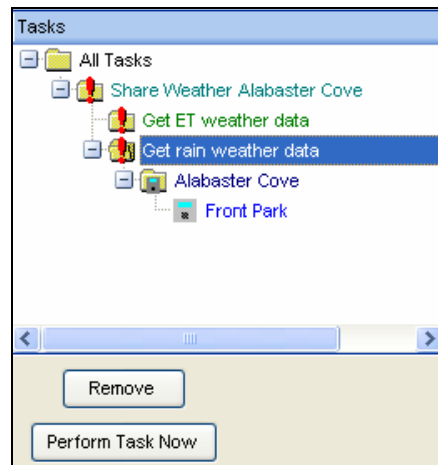

Figure 12.1.12
10. Once you have assigned the controller that you want to **Get rain weather from** it should appear under the “**Get rain weather**” task (Figure 12.1.12).